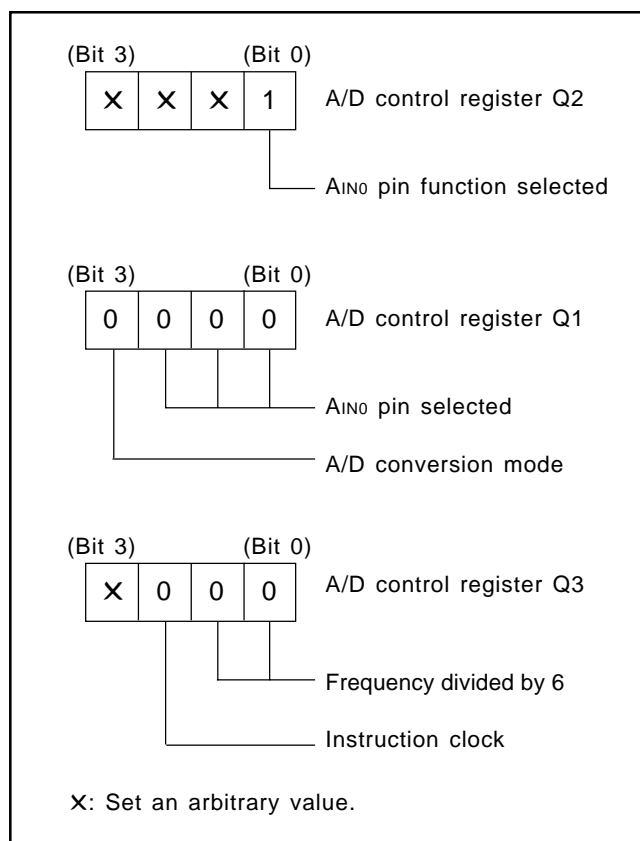

Fig. 39 Setting registers
- ① Select the AIN0 pin function with the bit 0 of the register Q2. Select the AIN0 pin function and A/D conversion mode with the register Q1. Also, the instruction clock divided by 6 is selected with the register Q3. (refer to Figure 39)
- ② Execute the ADST instruction and start A/D conversion.
- ③ Examine the state of ADF flag with the SNZAD instruction to determine the end of A/D conversion.
- ④ Transfer the low-order 2 bits of converted data to the high-order 2 bits of register A (TALA instruction).
- ⑤ Transfer the contents of register A to $M(Z, X, Y) = (0, 0, 2)$.
- ⑥ Transfer the high-order 8 bits of converted data to registers A and B (TABAD instruction).
- ⑦ Transfer the contents of register A to $M(Z, X, Y) = (0, 0, 1)$.
- ⑧ Transfer the contents of register B to register A, and then, store into $M(Z, X, Y) = (0, 0, 0)$.